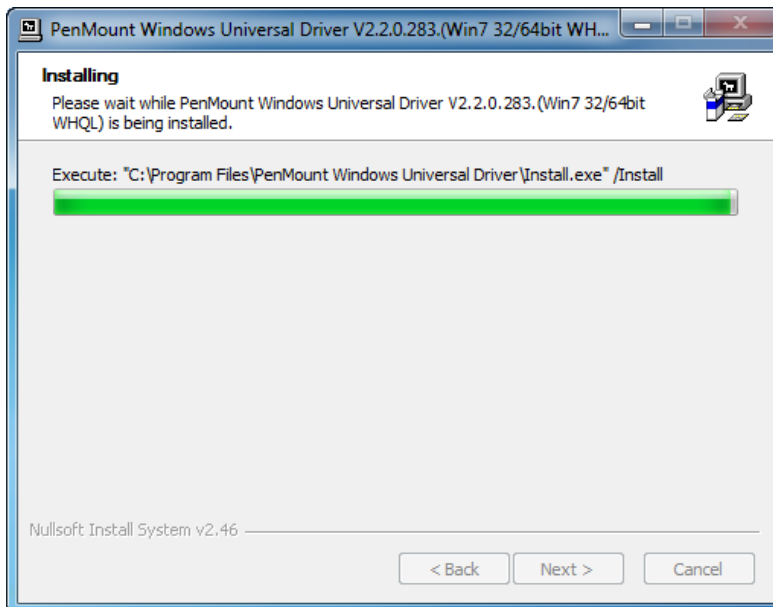

Figure 5-15: Touch Screen Driver Installation Screen
Step 10: The **Install** screen appears and displays the progress of the installation (Figure 5-15).